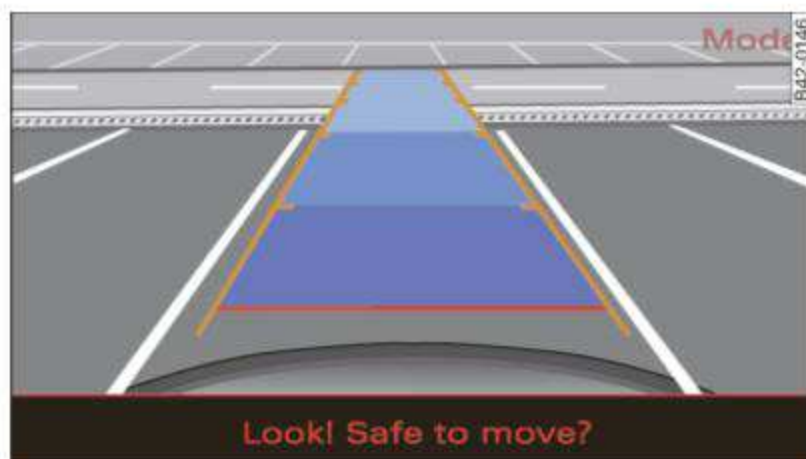

Fig. 79 Navigation system display: Aligning the vehicle
- Turn the steering wheel until the orange orientation lines ① appear in the parking spot. Use the markings ② to help you estimate the distance from an obstacle. Each marking corresponds to 1 meter.
- While driving in reverse gear, adjust the steering wheel angle to fit the parking space with the aid of the orange orientation lines ⇒ !. ③ marks the rear bumper. You should stop driving in reverse when the red orientation line ④ meets an object, at the latest ⇒ !.
- Align your vehicle to correspond with the blue area ⇒ fig. 79. The blue area represents an extension of the vehicle's outline by approximately 5 m to the rear. The distance of the differently shaded areas to the vehicle are approximately 1, 2 and 5 meters.